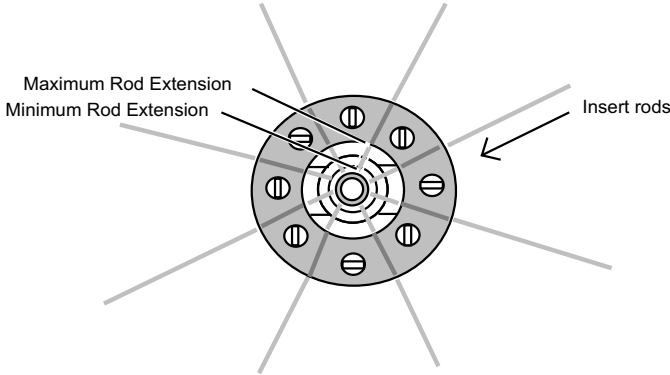

Figure-10: Inserting and adjusting radial rods
- [] Loosen radial-ring hardware and install rods, as shown in Figure-10.